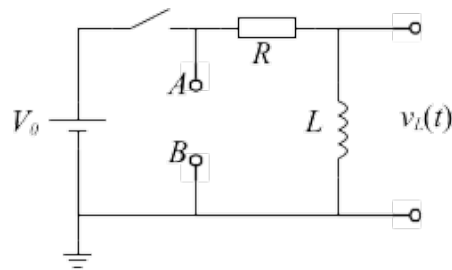

Figure 5 The circuit for problem 1.
1. Let us consider the ideal  $R_L$  circuit shown in Figure 5. The inductor has inductance  $L$  and is assumed to be an ideal inductor, meaning its internal resistance is zero. The resistor has resistance  $R$ , and the circuit is connected through a switch to a DC source whose voltage is  $V_0$ .